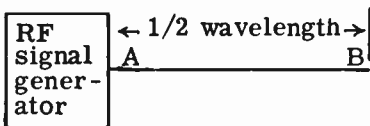

FIG. 17-5. HALF-WAVE ANTENNA.
**FUNDAMENTAL ANTENNA CONSIDERATIONS** Fig. 17-5 shows a wire or antenna connected to an RF source. The signal travels along the wire from point A to point B. At point B, it is reflected back to point A.